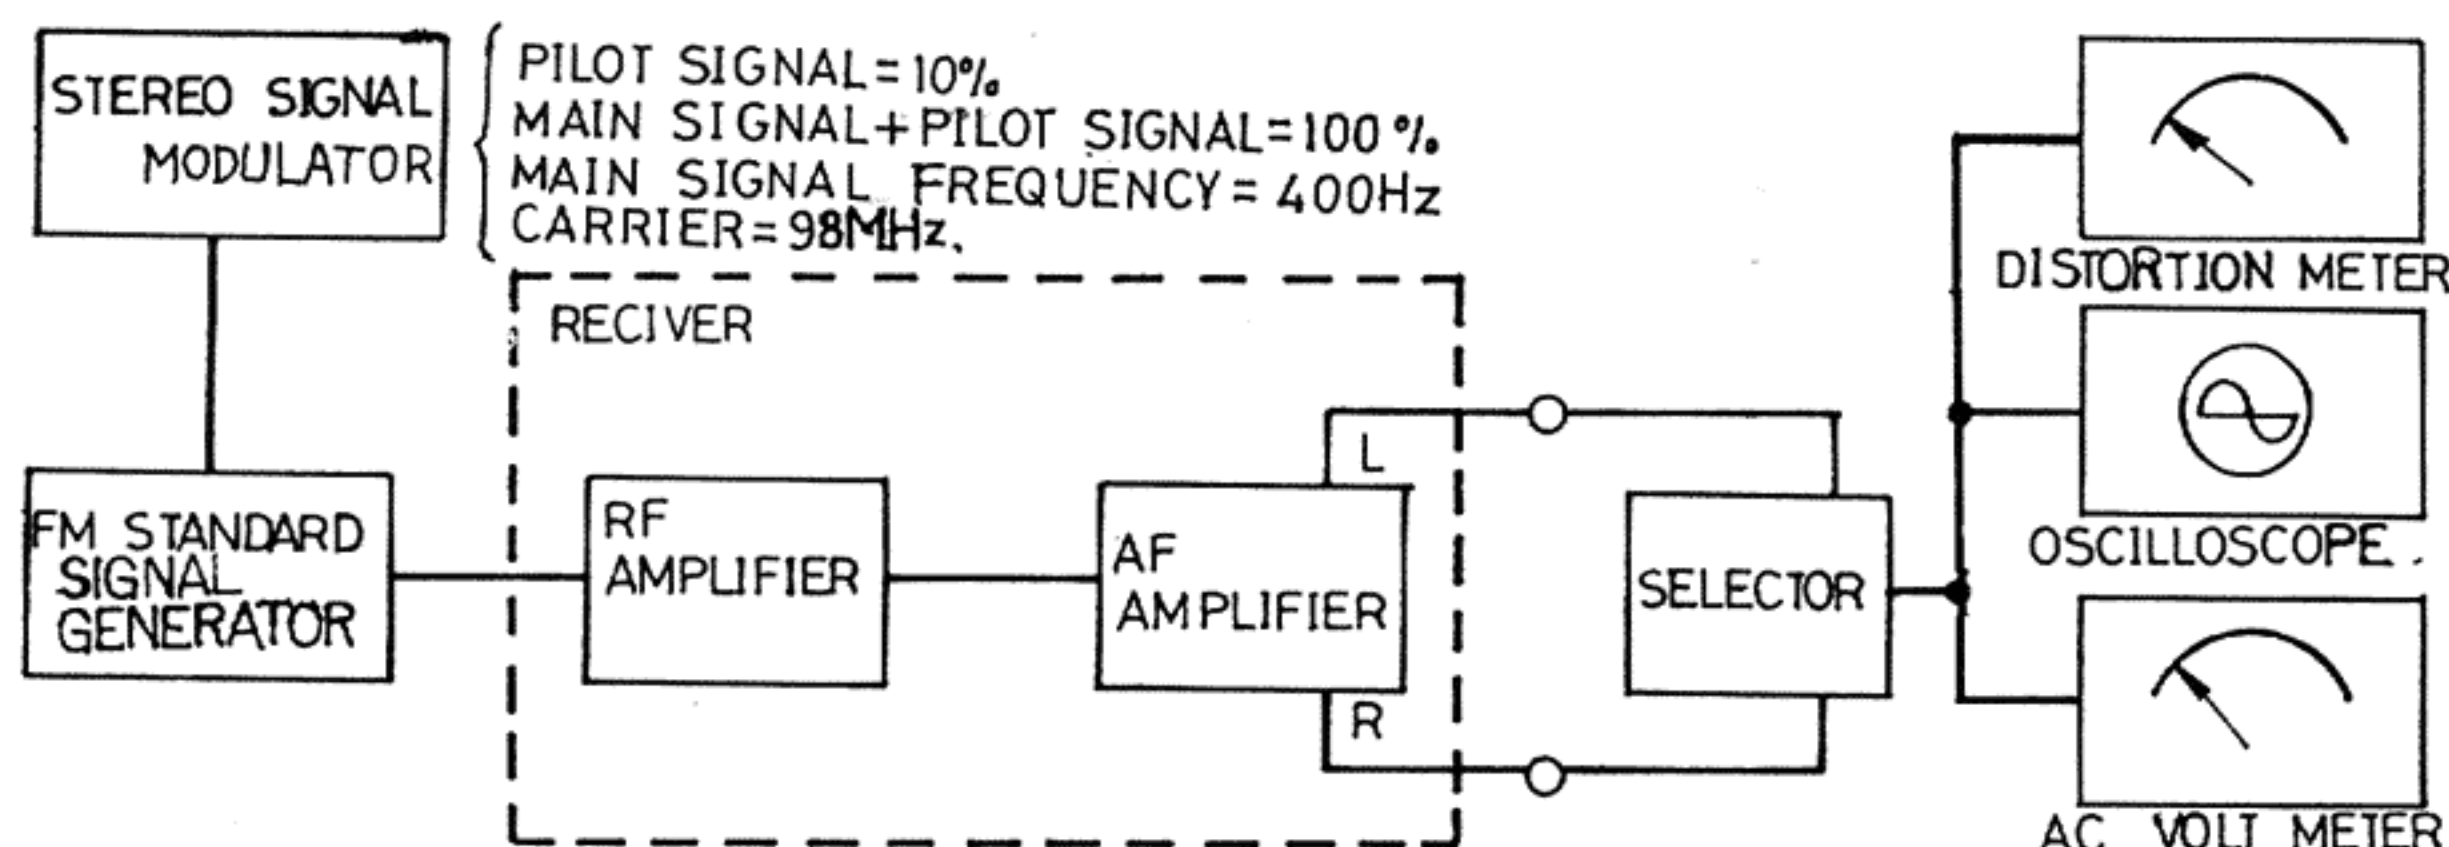

Fig. 15
- Connect V. T. V. M., oscilloscope & distortion meter to speaker terminal thru. the SELECTOR (See Fig. 15).